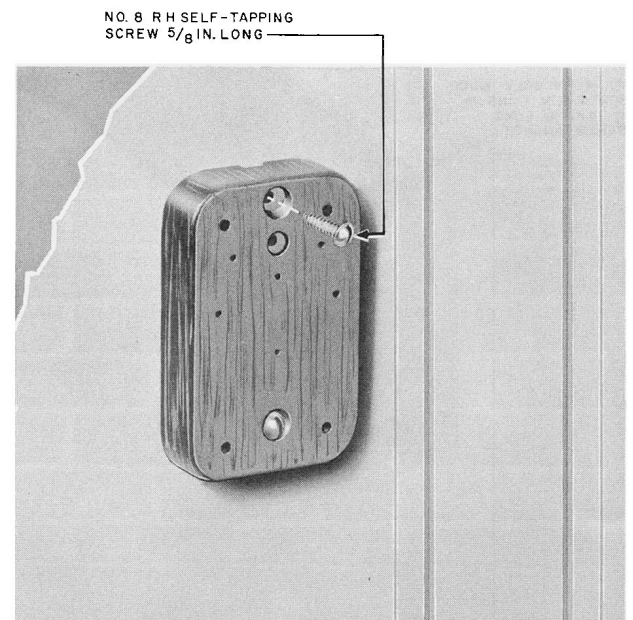

Fig. 5 — 164A Backboard Mounted on Metal Panel
2.14 The 164A backboard is suitable for mounting some associated station apparatus on metal desks and panels (see Fig. 5). If used to mount 4C- or KS-type buzzer, countersink the backboard mounting screws to prevent screwheads from contacting buzzer base.